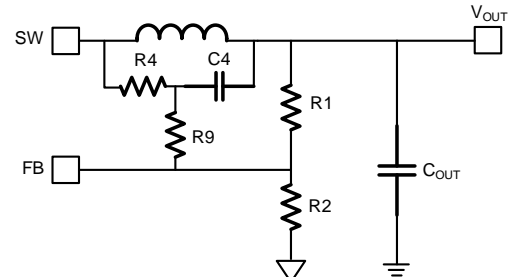

Figure 9: Simplified Circuit with External Ramp Compensation
Figure 9 shows the simplified circuit with external ramp compensation.
V_{OUT} is impacted by R4 in addition to R1 and R2 shown in Figure 9. R1 can be determined with Equation (5):